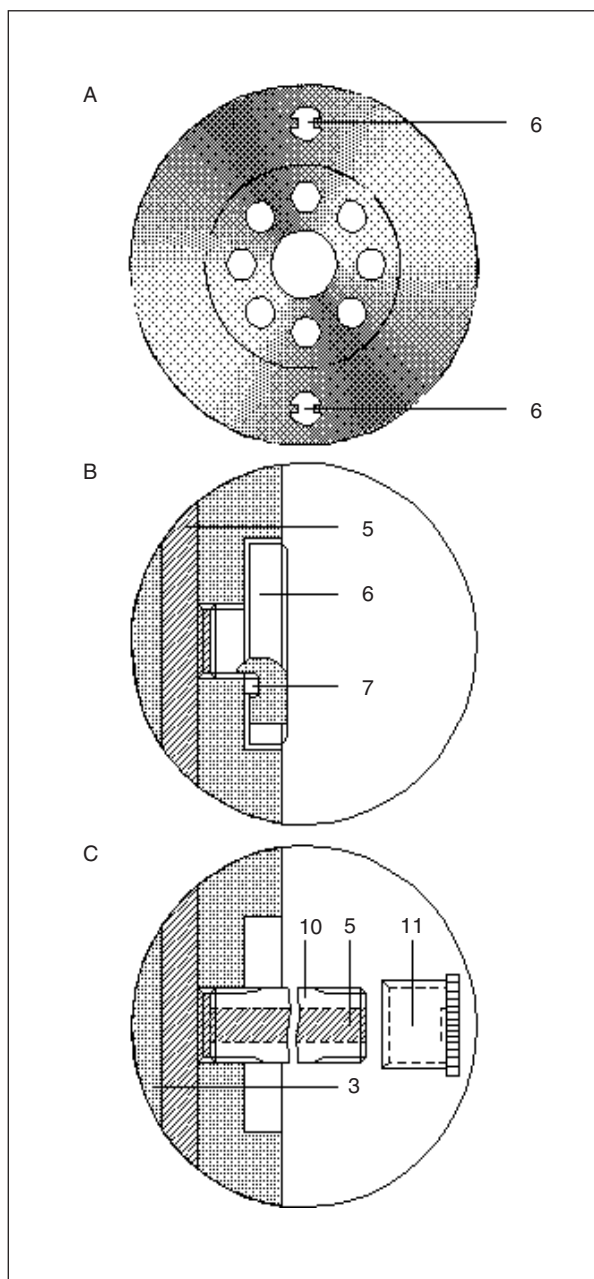

Fig. 2. Vibration Damper
3. Rotate the engine in order to bring the extraction plugs (6) of the damper in optimal position, see fig. 2 A.
4. Prepare the sample container (10) by removing one of its caps (11), see fig. 2 C.
5. Unscrew and remove one of the extraction plugs (6) and replace it with the sample container (10).